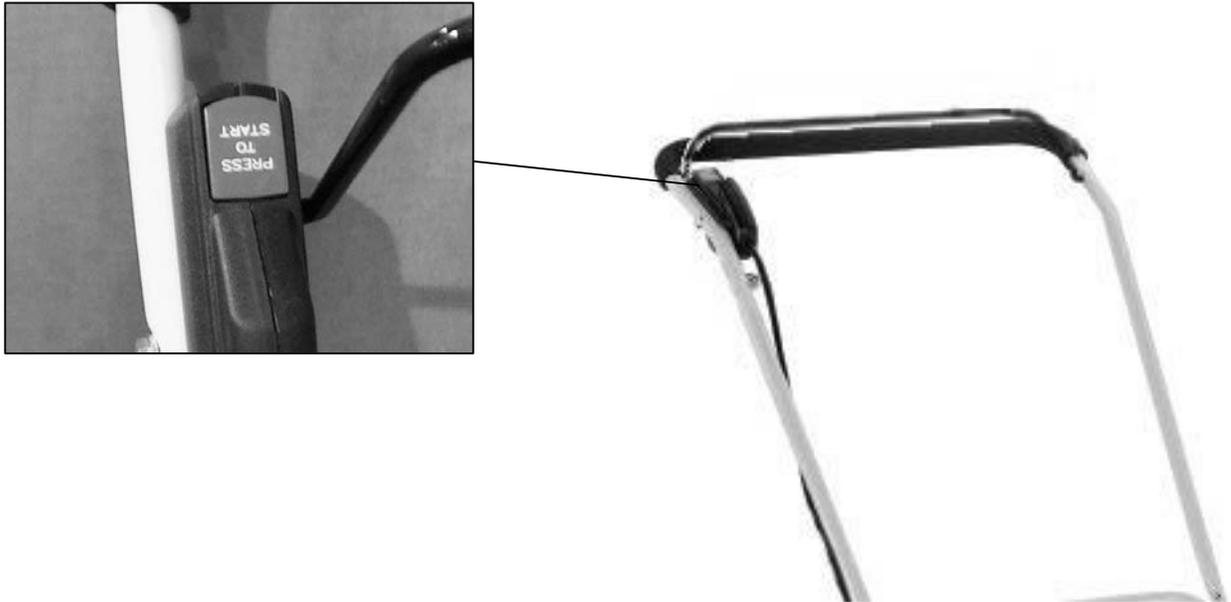

Figure 11
6. Press in the red starter button on the handle. (Fig. 11)